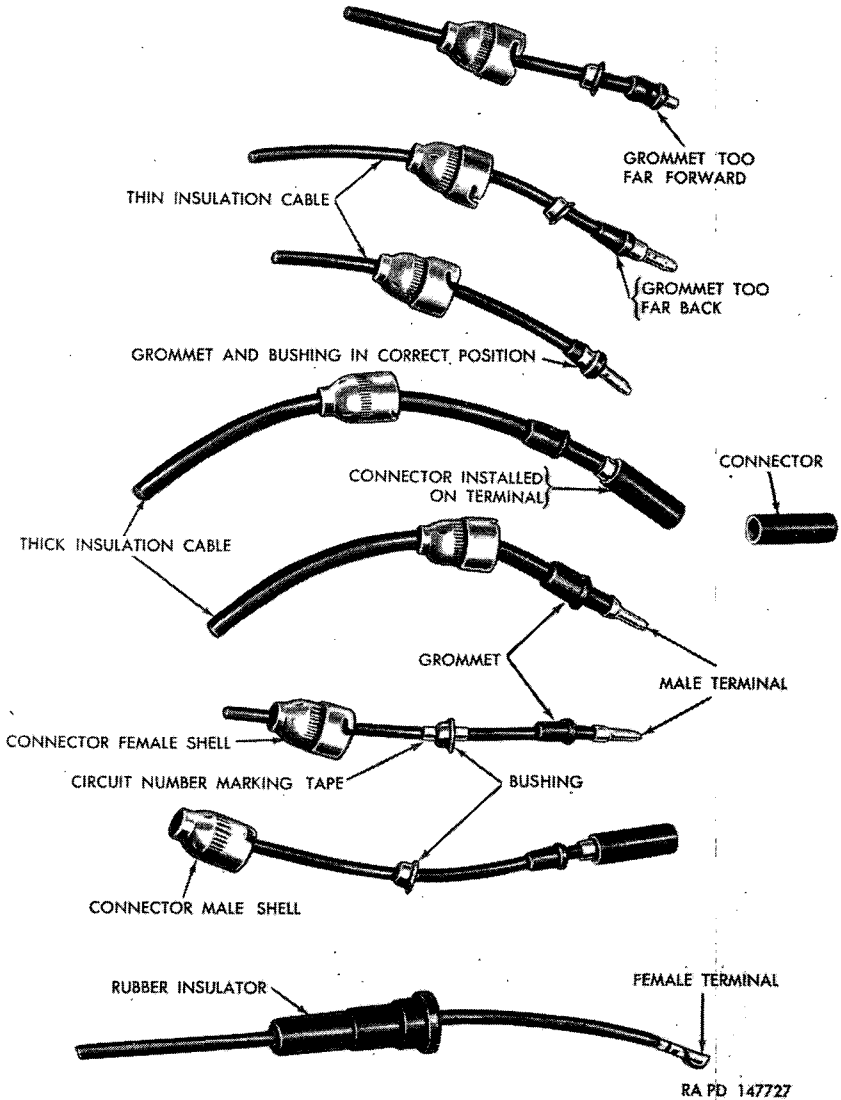

Figure 189. Bell-type connectors.
- (3) *Bell-type connector* (fig. 189). Separate the two bells by a twist and pull. Pull apart the insulated, snap-type connector.
- (1) *General*. All electrical conduits and cables are installed in essentially the same manner, by connecting the connector ((2) and (3) below) at each end.
- (2) *Plug-and-receptacle-type connector*.
- (3) *Bell-type connector* (fig. 189). Snap connector units together. Make sure rubber grommets and bushings are in proper position. For correct position see figure 189. Clip together the two bells.